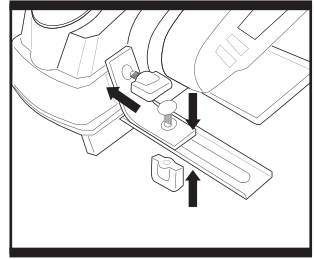

Fig. 5
4. USING THE PARALLEL GUIDE (Fig. 5)